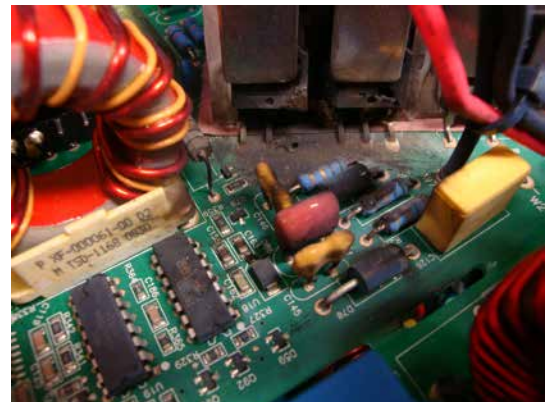

Figure 5.8 - Blown power supply - not repairable
- Power supplies cannot always be repaired if there is too much damage. The power supply on the PLC platform can smoke, catch fire, and cause much damage to the PCB (see Figure 5.8). Do not repair the power supply if more than 2 traces are damaged, the PCB has a hole, or an extreme amount of black soot is on the board. It is recommended to perform a module swap in any of these scenarios.